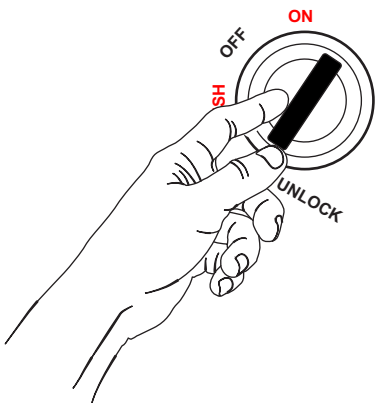

Figure 9. Key Switch Unlocked Position
3. Make sure key switch (Figure 9) is in the **unlocked** position. Locking pin is **not extended**.